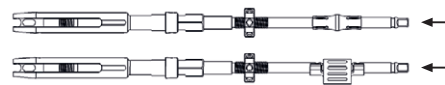

Fig. 12
- Insert the subassembly into the FRI outer sleeve, see Fig. 12.